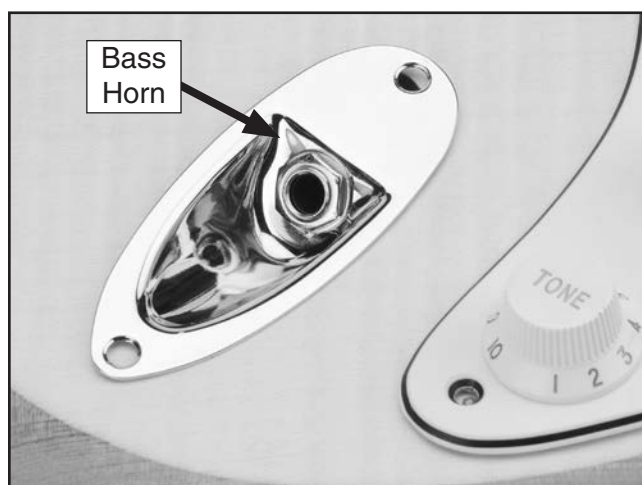

Figure 24. Audio jack inserted into audio jack plate.
2. Remove the nut and washer from the audio jack, insert the audio jack through the audio jack plate, and secure with the hex nut and washer, as shown in **Figure 24**.